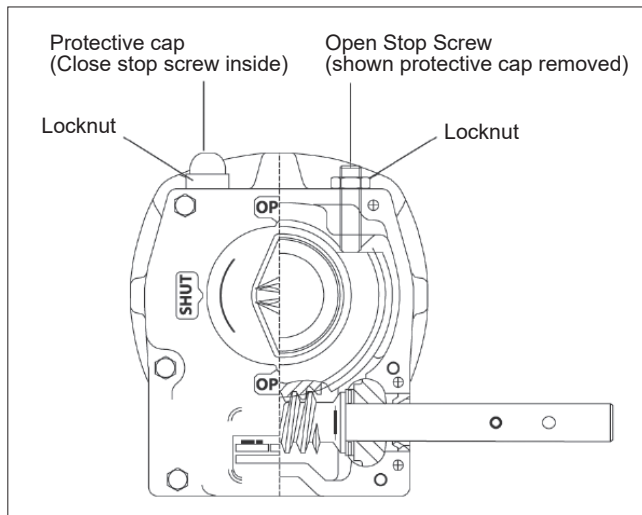

Fig. 17 Travel stop adjustment
- Ensure valve stem key (25) is installed in the keyway
- Insert the coupler (part of mounting hardware) on the stem (21) by aligning the with the stem key (25) and keyway of coupler
- Install a mounting bracket through coupler (63) and fasten the bracket with valve body using correct bolting, spring washers / split washer as applicable
- After installation of the gear, it is then necessary to adjust the travel stops for the proper full-open and full-close valve position (see Figure 17)